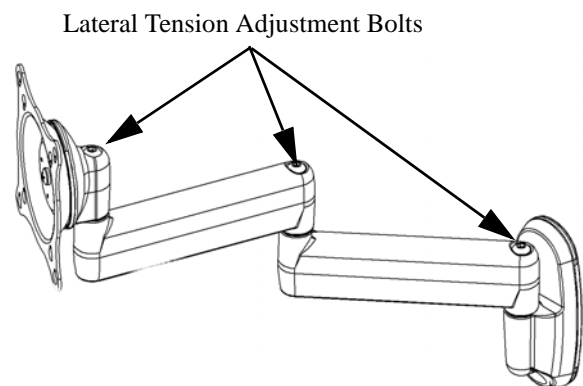

Figure 13. Lateral Tension Adjustment
1. Using a 3/16" hex wrench (150), slightly tighten or loosen lateral tension adjustment bolt (see Figure 13).